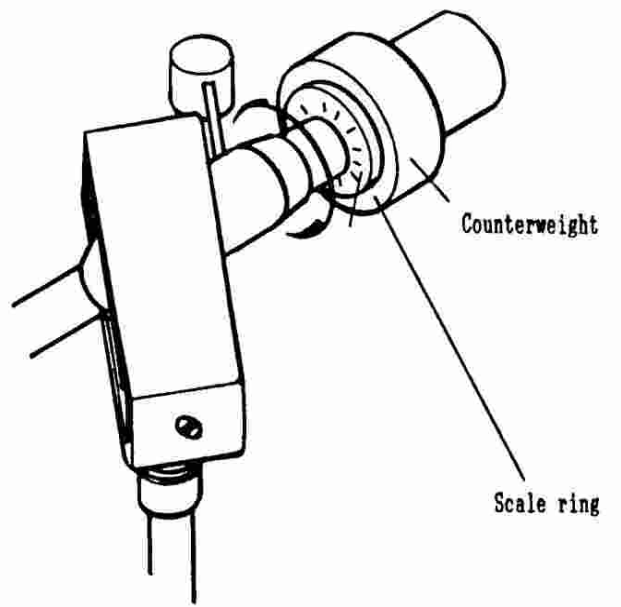

Fig. 4
- 7) Hold the counterweight at the adjusted position and turn the tracking force dial until the "0" mark is aligned with the index line on the tonearm shaft (Fig. 4).